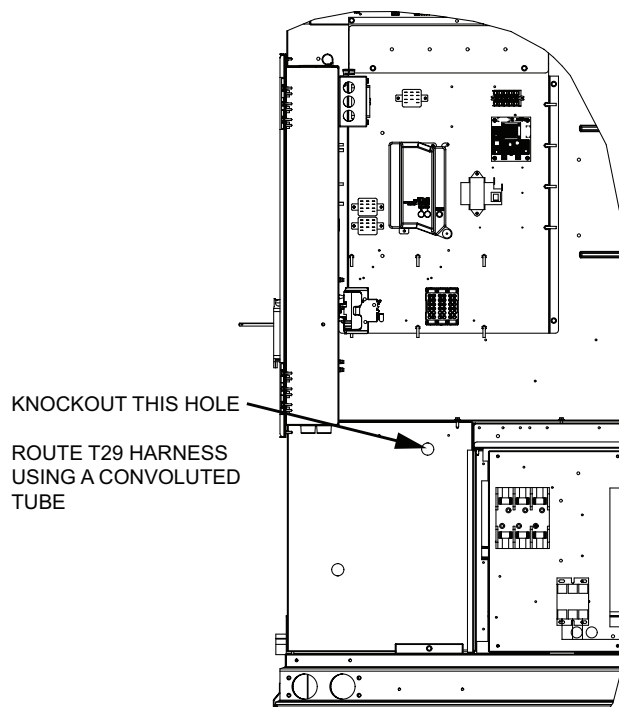

FIGURE 19
- iii. Open the control access panel and knock out the top-right hole. Use the convoluted tubing provided in the kit to feed the harness through hole. See FIGURE 19 for S*H 180-240